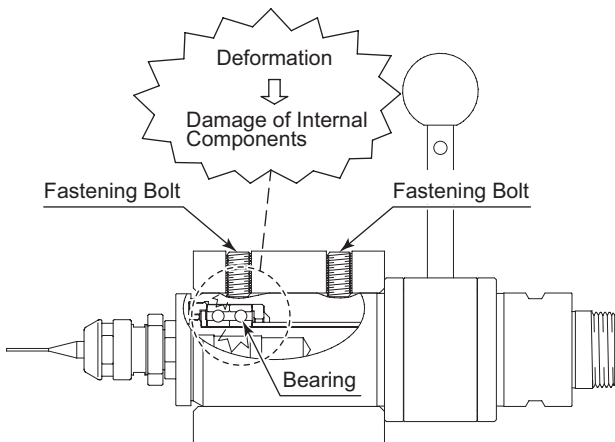

Fig. 18
**When installing, never clamp directly over the spindle bearings, as this will result in bearing damage. (Refer to Fig. 18)**